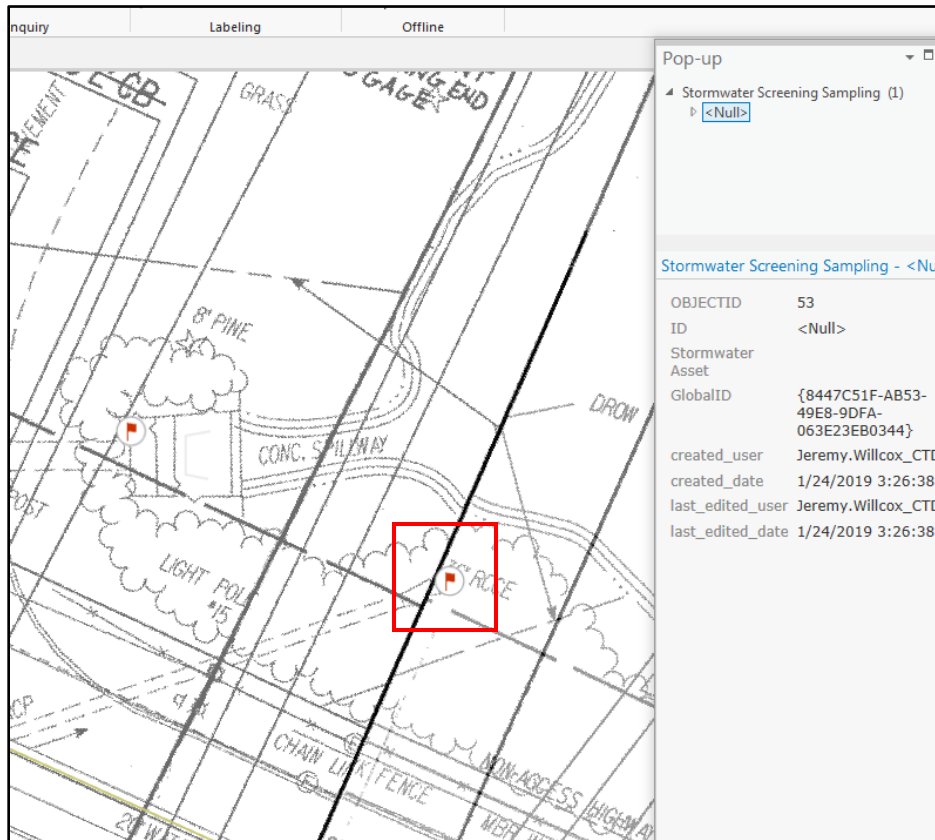

Figure 39. Drawing new features in ArcGIS Pro.
8. Next, draw the feature in the map window (Figure 39, below). Trace the features from the georeferenced plans, as appropriate. **Always check the aerial imagery and digitize to the ortho imagery over the plans, as the georeferenced plans may not be exact.**